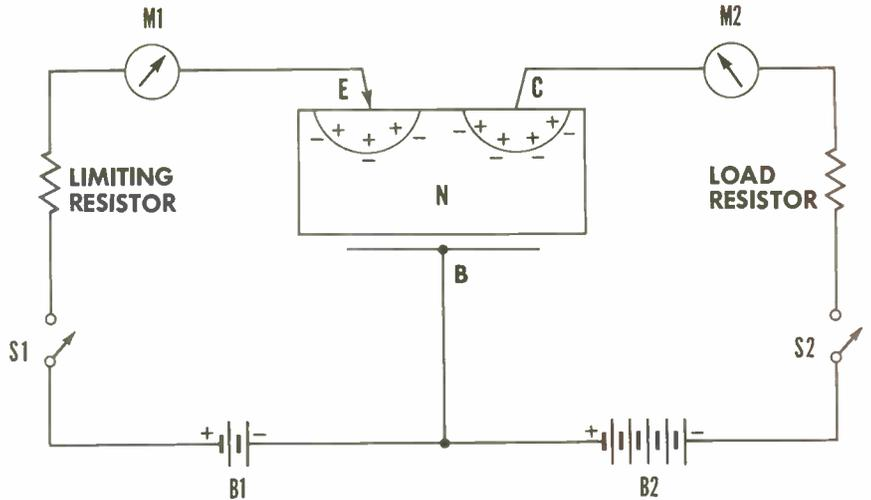

Figure 6. Basic Point-Contact Transistor Circuit.
The left-hand connection in Figure 6 is called the emitter (E) and the right one is the collector (C). The large connection to the crystal is the base (B). With S2 closed (S1 open) current will flow through the collector circuit, but only a small amount, as indicated on M2. By comparing the circuit, C to B, with Figure 4C, it can be seen that this